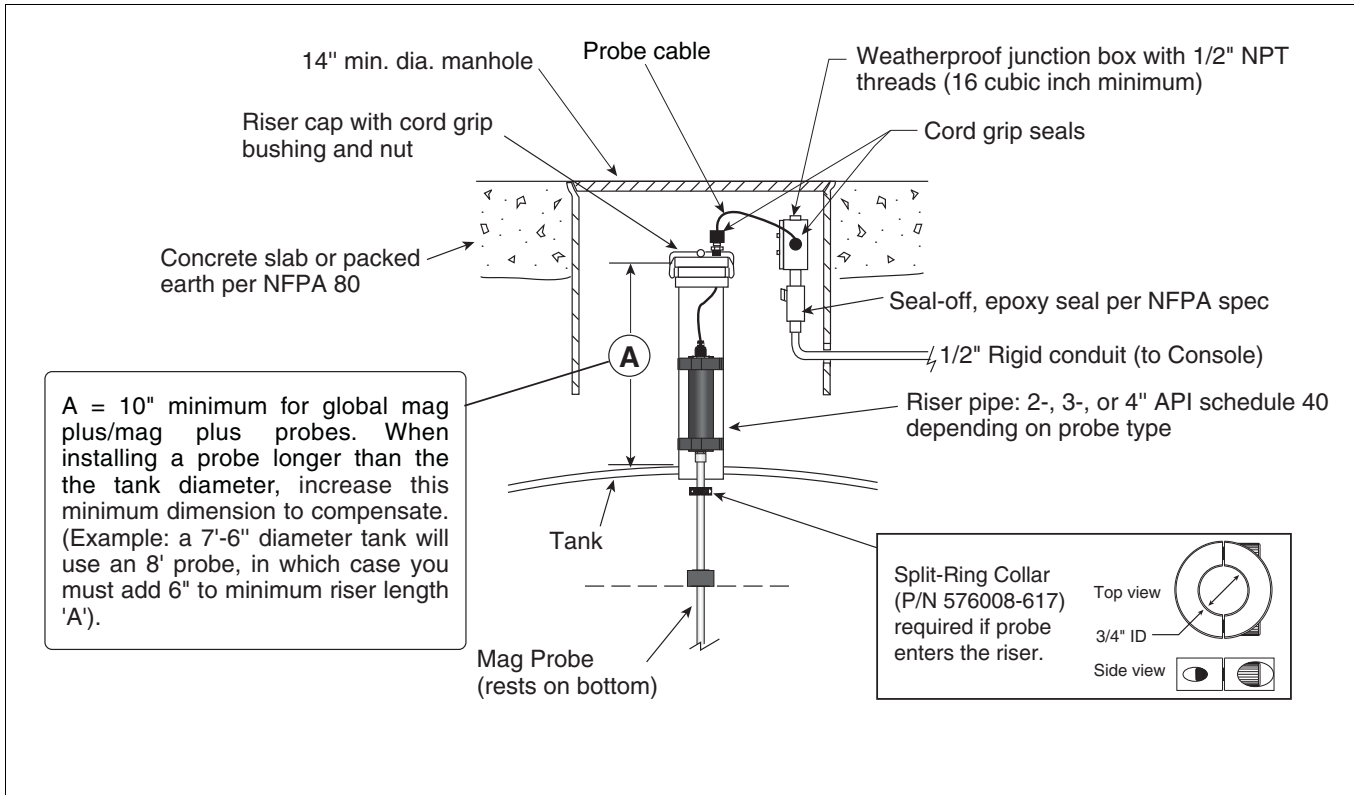
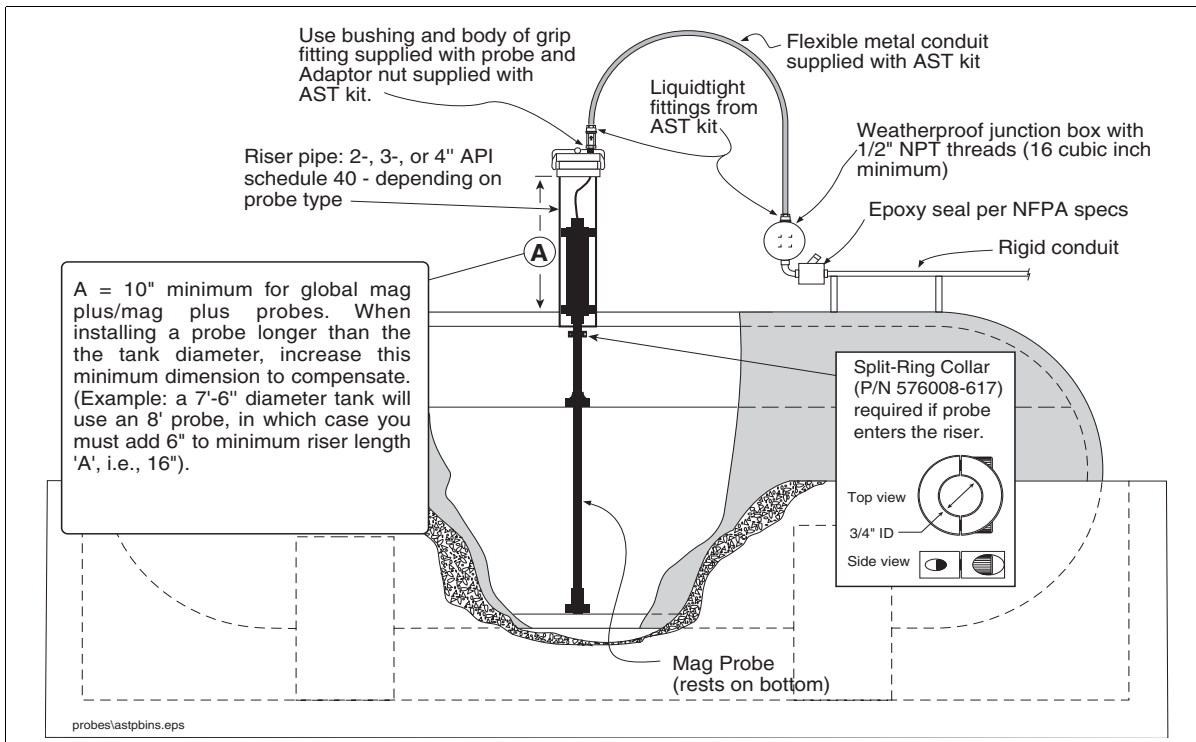

Figure 9. UST Probe Installation - Dedicated Riser
Figure 10. AST Probe Installation - Dedicated Riser
4. Gently slide the float(s) to the bottom of the probe shaft before raising the probe. Carefully lower the probe into the riser pipe until the boot rests on the bottom of the tank [See Figure 9 for UST installation or Figure 10 for AST installation].